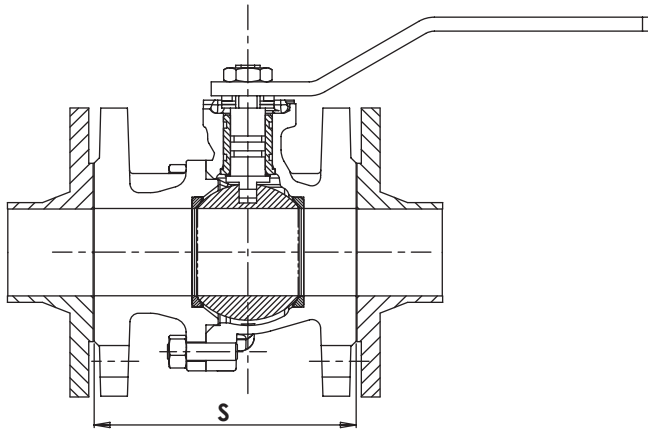

Fig.2
-The distance S between the flanges must be equal to the gauge of the valve. Do not use bolts to bring near the pipe (fig. 2). Clamping bolts must be cross tightened.